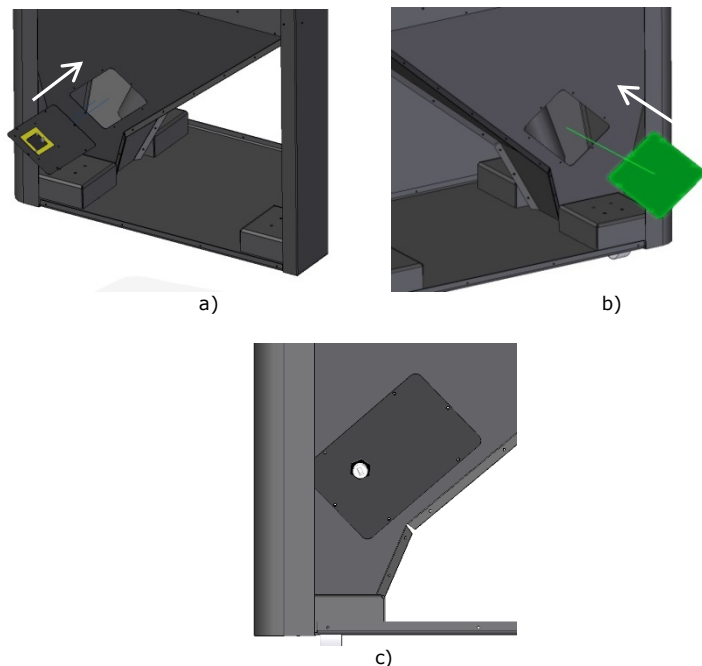

Figure 38 - Installing the pellet level sensor on the storage unit (storage unit on the left side of the boiler)
- Finally, you can mount the two mounting plates at the bottom of the storage unit, putting the plate with the level sensor on the right side and the plate without level sensor on the left side. The level sensor must be assembled as shown in Figure 38-c.